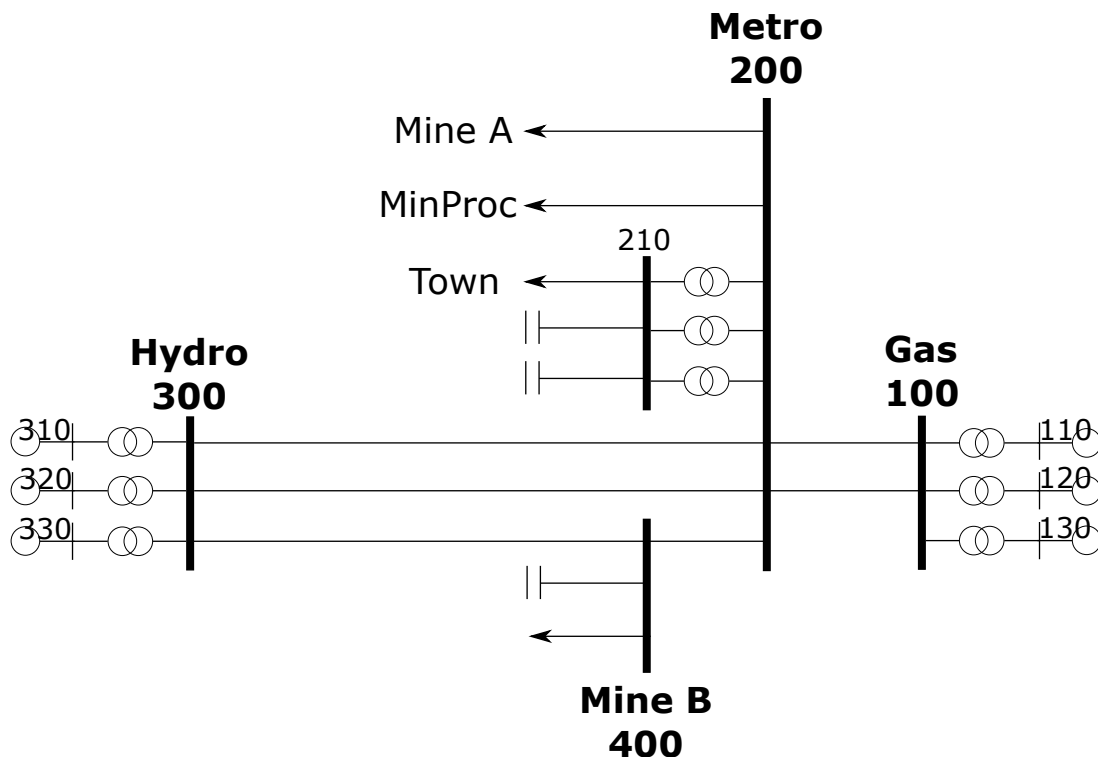

Figure 7: A toy power system
For this task we are going to investigate how to create a saved case from raw data and then how to produce a diagram. Fig. 7 depicts the power system we will enter into PSS/E. Please study it carefully since we will be using this toy power system in our future labs. Below is paragraph to help interpret the diagram and set some context:
- 6.5.3** Now reorganise the diagram so that it resembles Fig. 7. This can be done by dragging the buses to the appropriate locations and using the  icons on the toolbar if necessary.